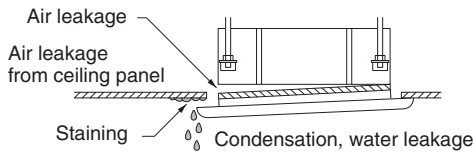

**Fig. 1-25**
- If there is a gap between the panel and the ceiling, leave the ceiling panel attached and make fine adjustments to the installation height of the unit to eliminate the gap with the ceiling. (Fig. 1-25)